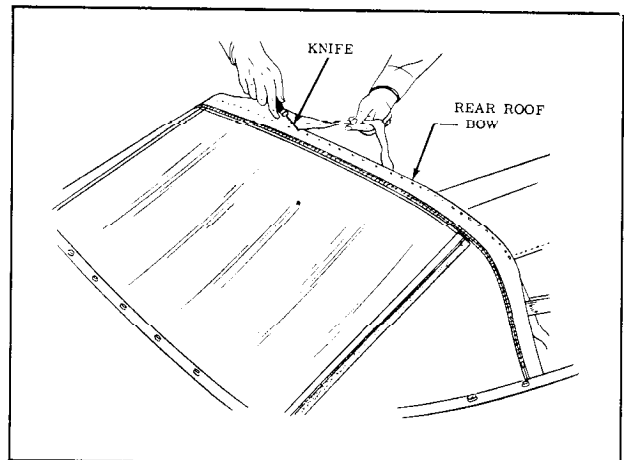

Fig. 17-34 Trimming Material at Rear Bow
17. Working from body center progressively outboard to right and left sides, tack back curtain upper valance to rear bow. Make sure all fullness has been drawn from curtain before trimming off excess at rear bow. (Fig. 17-34)